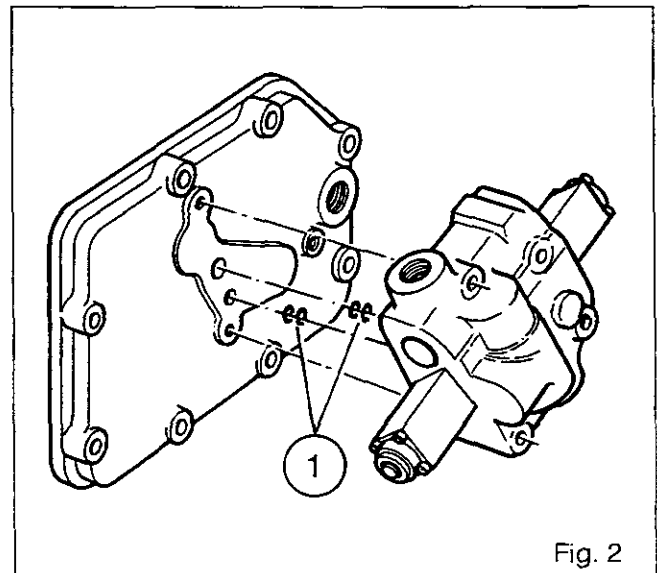

Fig. 2
5. Change the seals (1), refit the valve (Fig. 2).
6. Fit and tighten the screws (7) to a torque of 25-35 Nm.
7. Reconnect the hose (3) and the tube (4).
8. Reconnect the lift (1) and lower (2) solenoid valves (yellow connector).